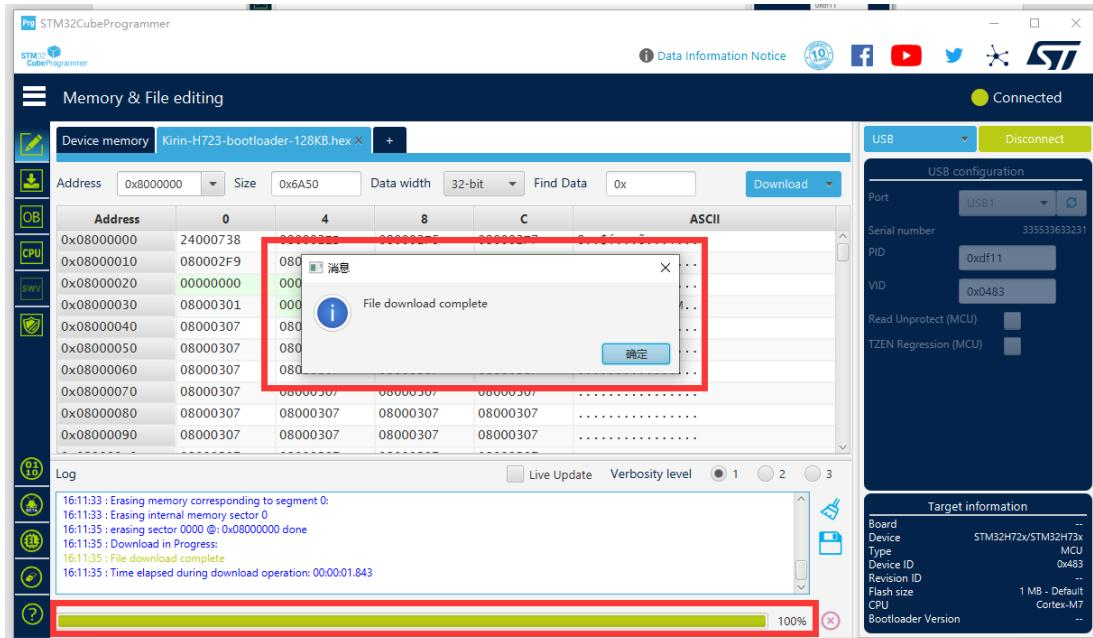

Figure 8-15
- 18) When the download progress bar is 100%, the software will prompt "File download complete", at this time the Bootload download is complete, as shown in Figure 8-15: